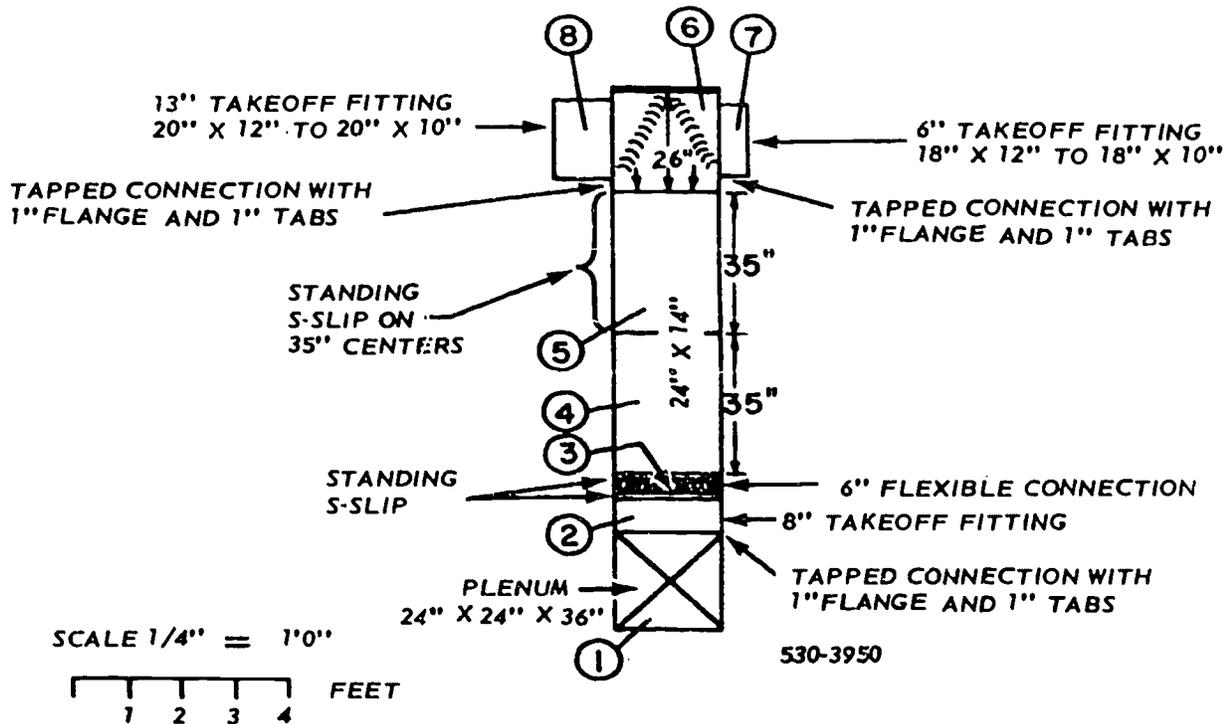

Figure 4-2. Breakdown of plenum and trunkline A.
Trunkline A and Plenum. Figure 4-2 is a breakdown of trunkline A in foldout 1. This shows how you divide trunkline A into joints and takeoff fittings. To break down a trunkline like this, your first step is to make a scale drawing of the plan view, showing only the outline of the trunkline. Since trunkline A is connected to the supply plenum of the heating and air-conditioning units, the plenum is also included in the drawing. As stated earlier in this chapter, the plenum is 24 inches wide, 36 inches high, and 24 inches long. Trunkline A is 24 inches wide, 14 inches high, and 9 feet 2 inches long. No joint connection allowances are needed for either the top or bottom of the plenum.
Thus far the material required for the two patterns has been determined, and you can see that you need one whole 3' x 10' sheet (with 36" x 22 $\frac{3}{4}$ " left over) and another sheet from which the 28" x 28" cover can be made. This indicates that you need some sort of bookkeeping system to identify the parts by size and quantity, to identify the sheet from which the pattern will be cut, and to indicate how many and what size of sheets you need. Figure 4-3 is an example of such a record. You will find that it is also helpful to make a sketch of each sheet of metal, showing how the patterns should be arranged to avoid unnecessary waste. Figure 4-4 shows how the trunkline and plenum can be made from four sheets. The sequence for determining the size and quantity of sheets required is to: (1) make a drawing, like figure 4-2, to show the dimensions of the ducts and joints; (2) start a materials-required list, like figure 4-3, and (3) make sketches of the sheets, as in figure 4-4.
Trunkline A has the same dimensions (24" x 14") for its entire length. Therefore, its stretchout, including Pittsburgh lock seam allowance, is 77 $\frac{1}{4}$ inches. Its length, as previously determined, is 9'2", which can be divided into joints as shown in figure 3-2. Beginning with joints 4 and 5, you should enter the pattern dimensions and requirements on lines of the materials chart (fig. 4-3). These patterns, including allowances, are each 36" x 77 $\frac{1}{4}$ " and should be made from two 3' x 10' sheets with two 36" x 42 $\frac{3}{4}$ " pieces left over. (One of these leftover pieces can be used to make the plenum cover.) You determine these dimensions by making sketches of sheets 2 and 3, as shown in figure 4-4. In figure 4-2, you can see that joints 4 and 5 occupy only 70 inches of the total length (110 inches) of trunkline A. This leaves 40 inches for joints 2, 3, and 6.
and 6. In figure 4-2, you can see how these 40 inches are used to make joints of appropriate sizes. Joint 6 is shown to be on 26-inch centers and is connected to joint 5 with S-and-drive slips. The pattern for joint 6 measures 26 1/2" x 77 1/4", which will need part of another whole sheet (sheet 4, fig. 4-4), with two leftover pieces. One of these pieces is large enough to make the 18" x 28" end cover for joint 6. The joint 6 entry is now made in figure 4-4, and the sketch made on figure 4-3 for joint 6 and its end cover. This end cover is to be installed with standing S-seams similar to those for the plenum cover.
Joint 7 in figure 4-2 is a takeoff fitting 6 inches long, which reduces from 18" x 12" to 18" x 10". It has a tapped connection at one end and S-and-drive connections at the other. Since this transition tapers on two sides, it should be made in four pieces with four Pittsburg lock seams. The pattern for each piece is 9 1/2 inches wide (6-inch length plus 3-inch allowance for the tapped connection and 1/2-inch allowance for the S-and-drive connection.) The two patterns for the top pieces are 9 1/2" x 20" (2 inches are allowed to make the pockets for the Pittsburg lock seams). The two patterns for the side pieces are 9 1/2" x 12 1/2" (1/2 inch is allowed to make the 1/4-inch flanges for the Pittsburg lock seams). These four pieces are entered as line items in figure 4-3. Notice in the sketches that the piece left over from the joint 6 end cover (sheet 4) is large enough to make two top pieces 9 1/2" x 20". Also, notice that the two 9 1/2" x 12 1/2" side pieces are made from sheets 2 and 4.
Joint 8 in figure 4-2 is a takeoff fitting 8 inches long, which reduces from 20" x 12" to 20" x 10". It is the same shape as joint 7 but has different dimensions. Joint 8 will require four pieces and four Pittsburgh lock seams. The two 11½" x 22" pieces for the top and bottom can
The last step in determining the size and quantity of material for trunkline A involves the standing S-slips and-drive slips that connect the joints. In figure 4-2 you can see that S-and drive slips are used in four places. This means that you need 8 standing S-slips, with 5½" x 23¾" of metal each. The 8-drive slips need 2¼" x 16"